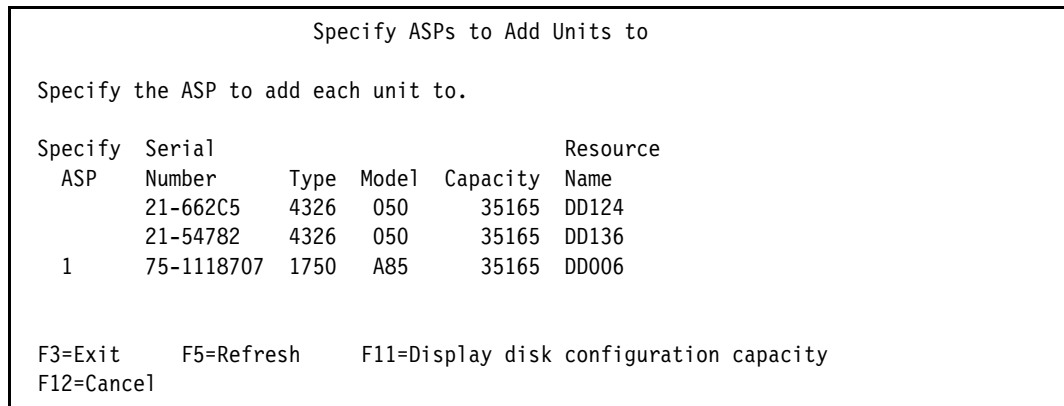

Figure B-4 Specify ASPs to Add Units to
5. Figure B-4 on page 334 shows the Specify ASPs to Add Units to panel. Specify the ASP number next to the desired units. Here we have specified ASP1, the System ASP. Press Enter.